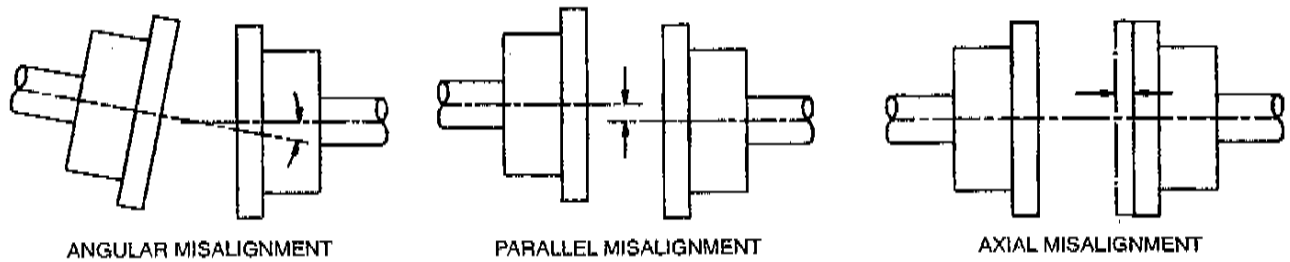

Figure 1-9: Types of Coupling Misalignment
D. Align the motor so that the total indicator reading (TIR) on the periphery and the face does not exceed 0.005 inches misalignment. With reference to Figure 1-9, the following applies to all screw compressor applications.